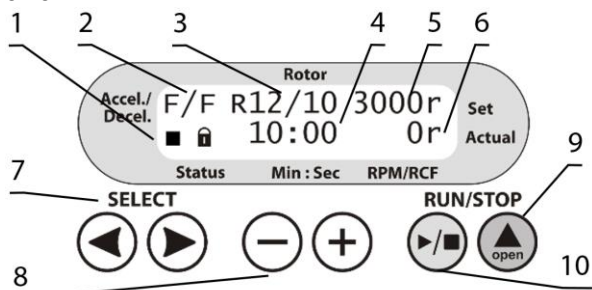

Figure 2. LMC-56 control panel
- Check the power cable for any signs of damage. Connect the power cable to a properly grounded mains socket. Set the power switch on the unit to position **I** (on). Press the **▲ Open** key (fig. 2/9) and lift the lid by hand.
- Acceleration and deceleration modes (fig. 2/2);
- Set rotor speed in RPM or RCF¹ (fig. 2/6);
- Status icons of rotor, ■ stopped or ► running (fig. 2/1, first symbol);
- Status icons of lid, ■ closed or ■ open (fig. 2/1, second symbol);
- Set time of centrifugation, in minutes and seconds (fig. 2/4);
- Actual rotor speed, in RPM or RCF (fig. 2/6);
- 5.4 Press the **▲ Open** key (fig. 2/9) and lift the lid by hand. Check the rotor, buckets for any signs of wear or corrosion, and replace if necessary. Insert **EVEN** number of tubes/microtest plates in rotor one opposite another. The loading in the opposite tubes must be equal.
5.5 **Setting parameters.** Use the **SELECT** ◀ and ▶ keys (fig. 2/7) to choose a parameter and the – and + keys (fig. 2/8) to modify it. Selected parameter will be blinking. Program automatically saves any changes made after no keys are pressed for 2 seconds.
5.5.1 Acceleration modes (fig. 2/2, first letter). Three modes of acceleration are available, slow (shortened to **S**), normal (**N**) and fast (**F**).
5.5.2 Deceleration modes (fig. 2/2, second letter). Four modes of deceleration are available, free brake (**0**), slow (**S**), normal (**N**) and fast (**F**).
5.5.3 Installed rotor (fig. 2/3). Combinations of rotors, adapters and their maximum allowed speed is listed below in the **Table 1**.
5.5.4 Rotation parameters (fig. 2/5). Rotor speed can be set in RPM and in RCF, denoted after numeric value by **r** and **g**, accordingly. Values convert after changing units. RCF depends on selected rotor or adapters, as shown in Table 1.
5.5.5 Time setting (fig. 2/4). Select duration of centrifugation in minutes, step 1 minute.
- 5.6 Close the lid carefully and smoothly until a clicking sound is heard. Icon  appears on the display (fig. 2/1).
- 5.7 Press the **RUN/STOP** / key (fig. 2/10) to start centrifugation. Icon  (fig. 2/1) and actual speed (fig. 2/6) are shown in the lower line of the display. The timer (fig. 2/4) starts the countdown after set speed is achieved.